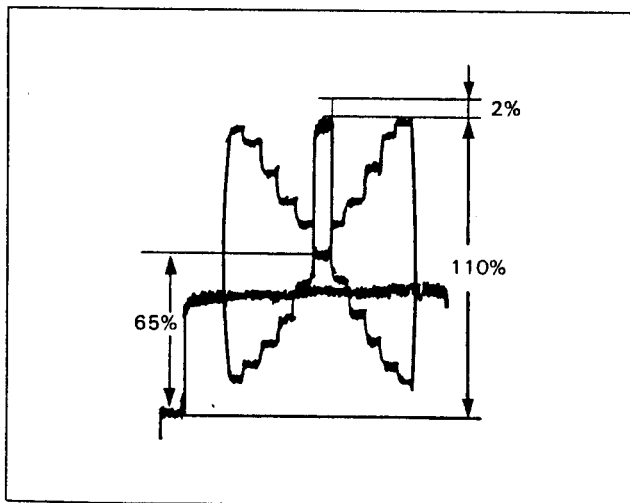

Fig. 1-7.
- ① Shoot the color bar chart with $41\mu\text{s}$ size. (See Fig. 1-7.) (without white chart part)
- ② Set S9101 to the lower.
- ③ Turn AGC ON.
- ④ Monitor C OUT (CN912⑧) on the oscilloscope ($10\mu\text{S}/0.1\text{V}/\text{div}$).